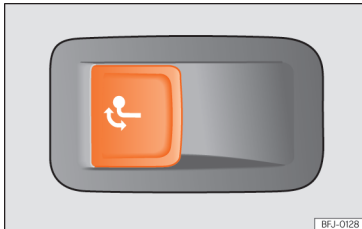

Fig. 297 Left side of the boot: button to unlock the tow hitch.
- Pull the »»» Fig. 297 button briefly. The tow hitch unlocks electrically and automatically turns outwards. The control lamp in the button will flash »»» Fig. 297.
- Pull the »»» Fig. 297 button briefly. The tow hitch unlocks electrically.
- Turn the tow hitch under the bumper with your hand until you feel and see that it engages and the control lamp on the »»» Fig. 297 button stays on.
- If the warning light of the button »»» Fig. 297 is flashing, this means that the tow hitch has not been attached properly or is damaged »»» ⚠.
- Never press the » Fig. 297 button when there is a trailer hooked to the vehicle or when a carrier system or other accessories are mounted on the tow hitch.